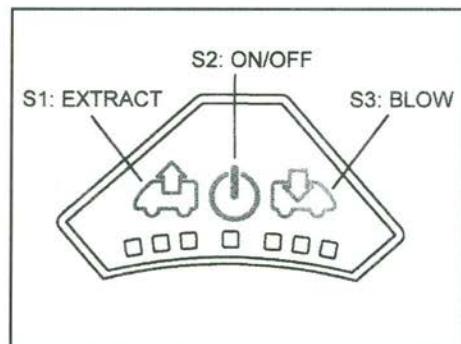

Fig. 1
- The ventilator is started by the soft switch S2. The middle LED light lights up and the ventilator starts in comfort mode, this is the lowest speed (extract) **See Fig 1.**